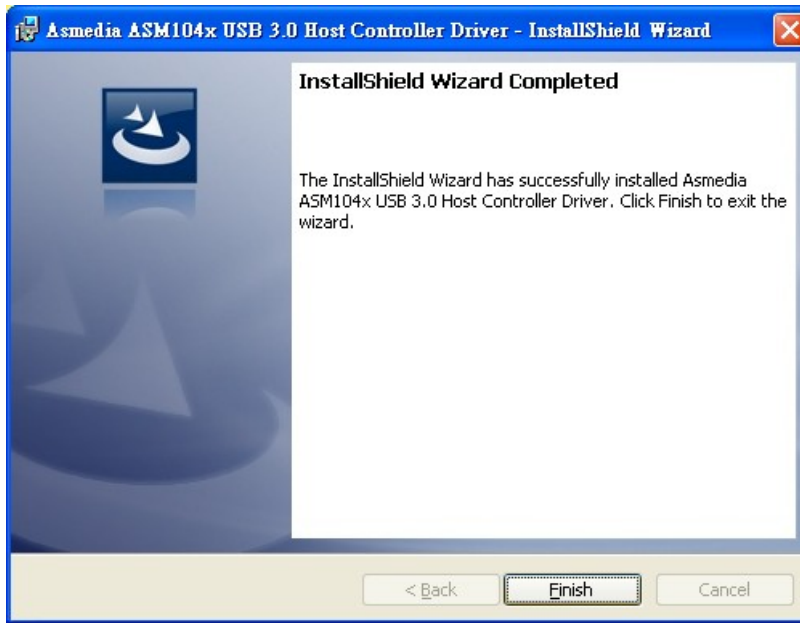

Figure 6-34: USB 3.0 Driver Update Complete
Step 9: When the installation is complete, click **FINISH** to exit setup. (Figure 6-34).